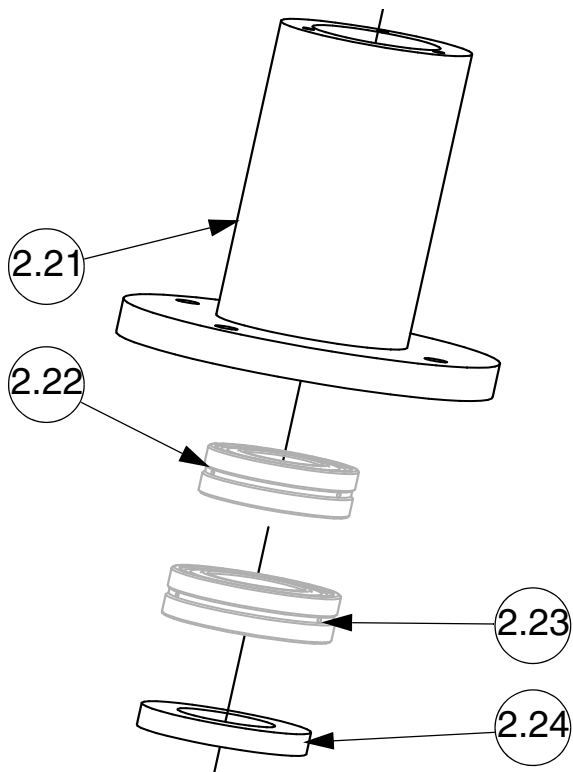
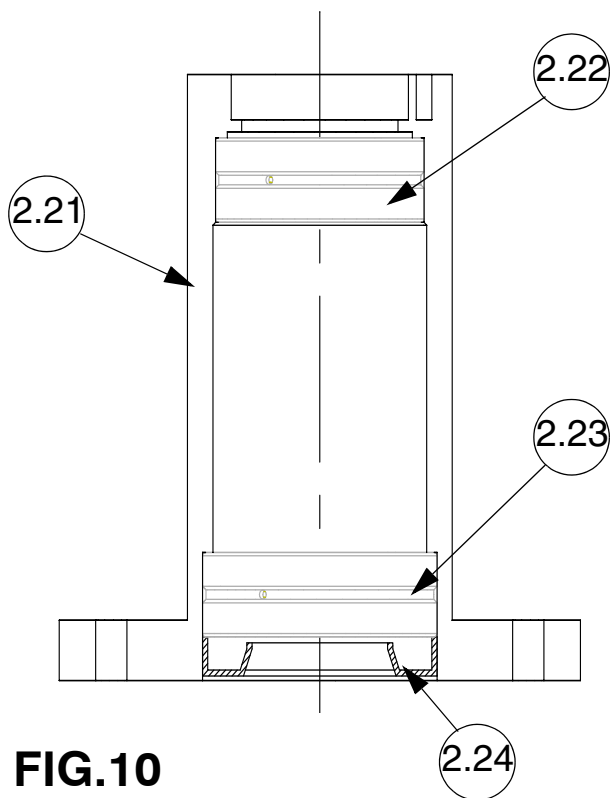
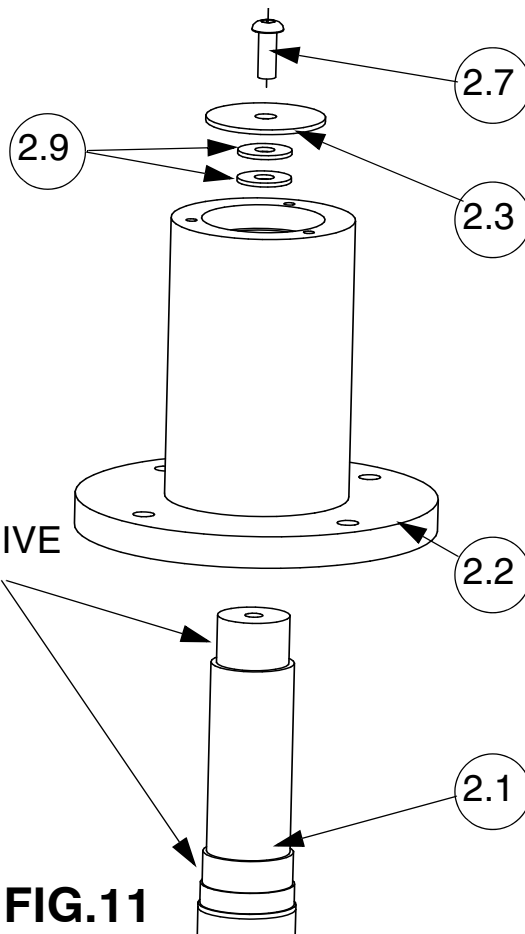

FIG.9
FIG.10
FIG.11
- ii) Undo the M10 x 30 Resistorx bolt (item 2.7) in the centre of the Shaft & Base Fabrication (item 2.1) and remove the Holding Washer (item 2.3) & Heavy Duty Washers (item 2.9). (FIG.11).
- iii) Slide the Bearing assembly (item 2.2) off the Shaft & Base Fabrication. (item 2.1).
- iv) Remove the Oil Seal (item 2.24) from the Bearing Housing (item 2.21). Inspect for signs of wear and replace if necessary. (FIG.10).
- v) Using a suitable bearing extractor, remove the Spherical Roller Bearing (item 2.23) from the Bearing Housing (item 2.21). Inspect for signs of wear and replace if necessary.
- vi) Using a suitable bearing extractor, remove the Spherical Roller Bearing (item 2.22) from the Bearing Housing (item 2.21). Inspect for signs of wear and replace if necessary. (FIG.9 & 10).
- vii) Press the Spherical Roller Bearing (item 2.22) into the Bearing Housing (item 2.21) ensuring it is fully in position. (FIG.9 & 10)
- viii) Press the Spherical Roller Bearing (item 2.23) into the Bearing Housing (item 2.21), ensuring it is fully in position. (FIG.9 & 10)
- ix) Slide the Oil Seal (item 2.24) into the Bearing Housing (item 2.21), (FIG.9 & 10).
NOTE: Ensure the oil seal is the correct way up. (FIG.9 & 10)
- x) Apply a suitable Bearing Fit Adhesive (Loctite 641) to the mounting diameters on the Shaft for the two bearings and slide the Bearing Assembly (item 2.2) over the Shaft. (FIG.11).
- xi) Secure the Bearing Assembly in place with the Holding Washer (item 2.3), Heavy Duty Washers (item 2.9) and a Resistorx M10 x 30 bolt (item 2.7). Fully tighten to 20-25 Nm. (FIG.11).